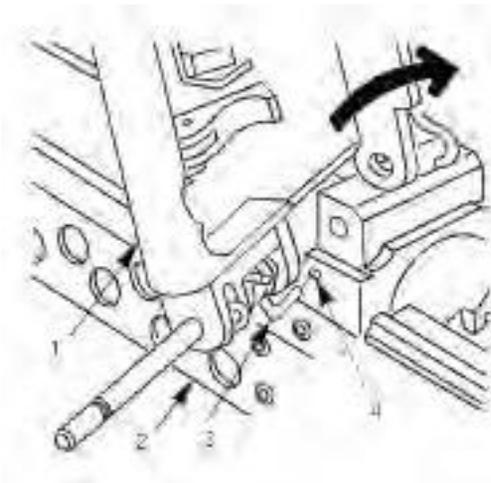

Figure 62. Receiver Assembly, Feed Mechanism Assembly, Headless Pin
35. With cover and feed mechanism assembly (Figure 62, Item 1) in vertical position, guide tang of torsion spring (Figure 62, Item 3) into hole (Figure 62, Item 4) on left side of receiver assembly (Figure 62, Item 2) and rotate over to p of receiver assembly (Figure 62, Item 2).